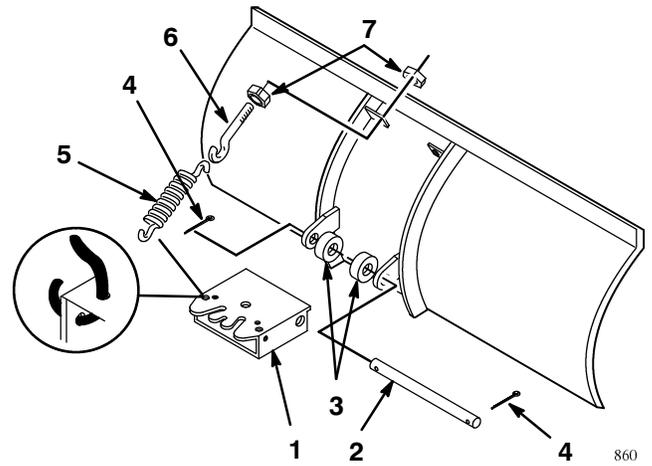

Figure 6
- Assemble the snow blade to the quadrant with the pivot rod and spacers. Retain them with cotter pins (Fig. 6).
- Thread a jam nut partially onto an eye bolt and insert the eye bolt into the blade bracket (Fig. 6). Hook the trip spring between the rear holes in the quadrant and the eye bolt. Secure with a second jam nut (Fig. 6). Tighten the top jam nut so the spring is under slight tension, then tighten lower the jam nut.